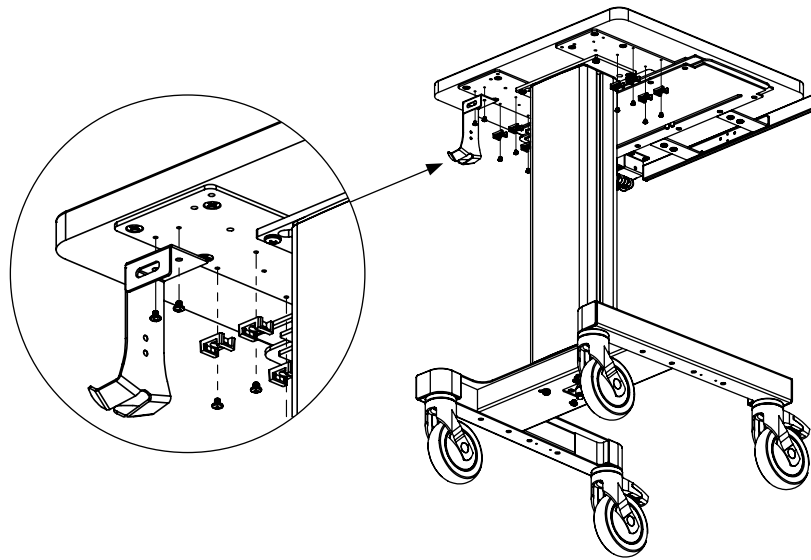

Figure 9
- a. Install the power hook bracket (**Box B**) to the worktop bottom plate with two 8 - 32 x 3/16" long screws (**Figure 9**).